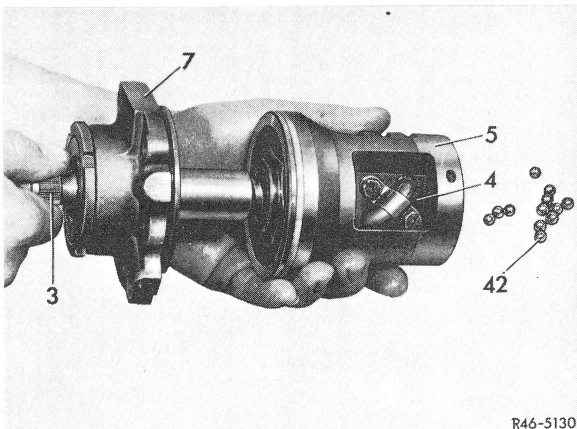

Fig. 12
13 Unscrew steering worm (3) from steering nut (4) making sure that no balls (42) are lost (Fig. 12).